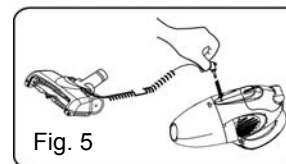

Fig. 5
3. To operate the motorized brush, connect the plug of the spiral cord of the brush to the jack under the bottom of the main unit, then turn on the unit for vacuuming. (Fig5, 6)